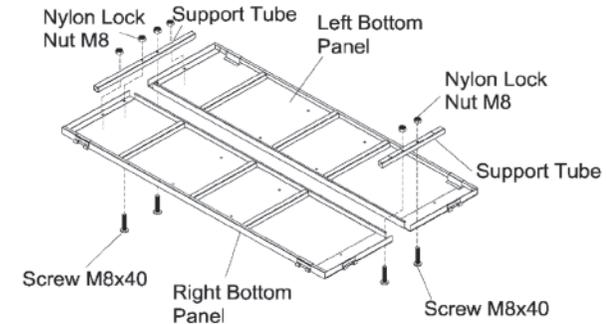

Fig. 1
**STEP 1 Attach Bottom Panels and Support Tubes (See Fig. 1)**